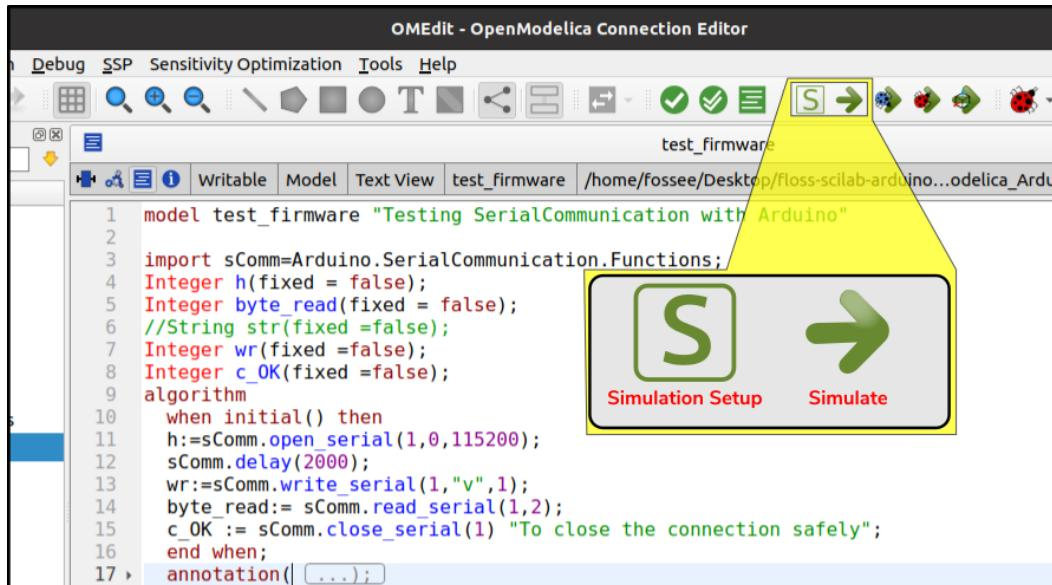
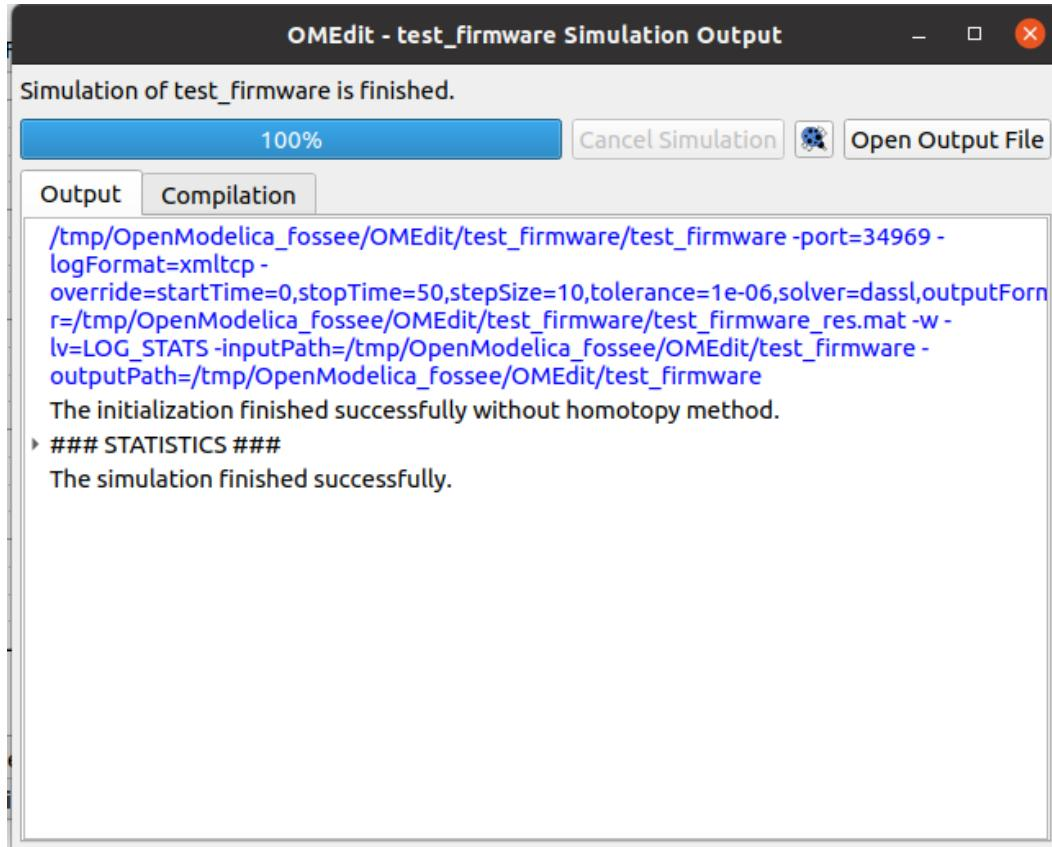

Figure 3.13: Simulating a model in OMEdit
Figure 3.14: Output window of OMEdit
Now, we will see how to simulate this model. For this, we need to ensure that OMEdit is in Modeling Perspective. Next, we will click on the green right-sided arrow, named as Simulate, as shown in Fig. 3.13. When we click on Simulate, OMEdit will first compile the model and then, it will simulate the model for the time specified in the model itself. As OMEdit provides an elegant user interface for simulating the models, it will open an output window the moment you click on Simulate. Fig. 3.14 shows the output window after the simulation of our model is finished. Also, we can observe that the OMEdit is now in Plotting Perspective.
As shown in Fig. 3.14, OMEdit displays the message that "The Simulation fin-
**OpenModelica Code 3.1** An OpenModelica code/model to check whether the firmware is properly installed or not. Available at Origin/tools/openmodelica/windows/test\_firmware.mo, see Footnote 2 on page 2. Locate this file inside OpenModelica-Arduino toolbox, as explained in Sec. 3.2.4. Simulate this code/-model by following the steps given in Sec. 3.2.3. If the simulation is successful, you should expect an output window in OMEedit as shown in Fig. 3.14.